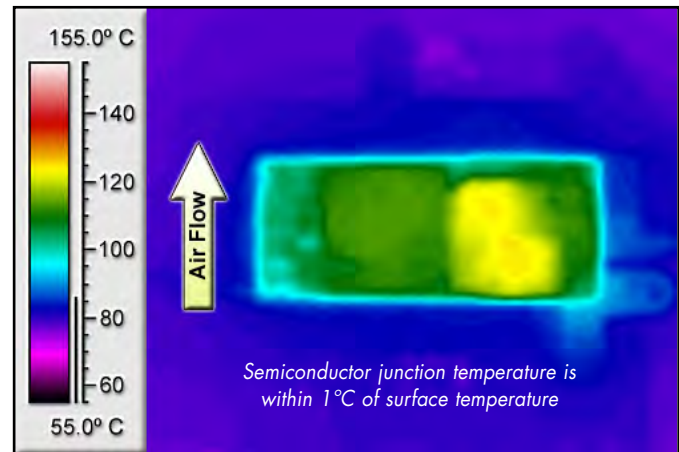

Figure 4: Thermal plot of 0.75Vo, 1.2Vo converters at nominal Vin and 10 amp load current mounted on a 85°C, 6-Layer, 2 oz. copper board (typical installation).
- If operation near derating limits is even suspected, thermal performance should be verified with the unit mounted in its intended manner and powered in circuit with all neighboring circuitry active. Attach a thermocouple to the converter's hotspot as shown in Figures 4, 6, and 8 in the Performance Curves section.